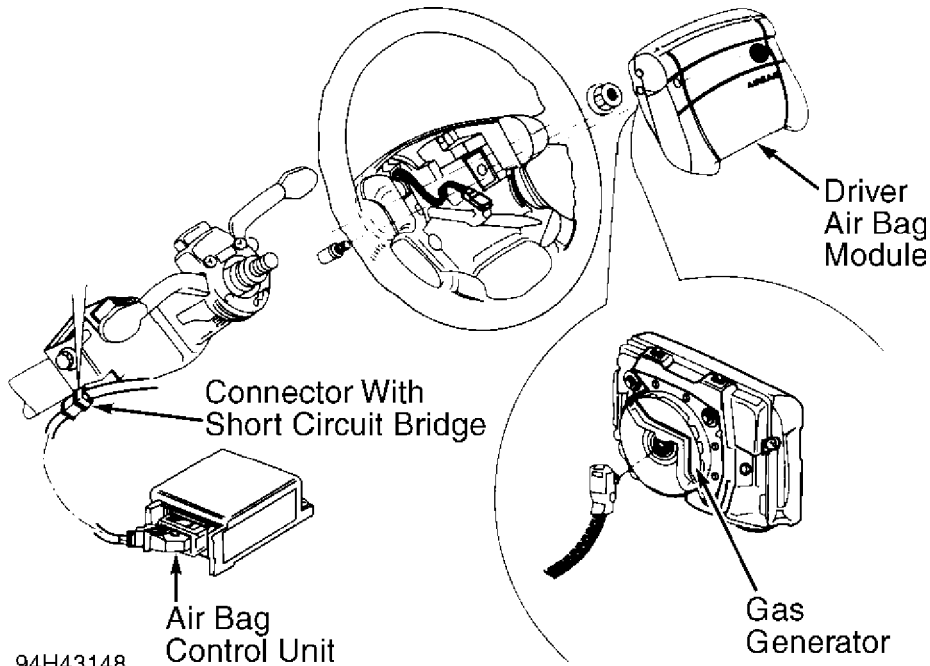

Fig. 1: Exploded View Of SRS Components
2) Air bag module is located in steering wheel. See Fig. 1. Remove air bag module Torx head screws from rear of steering wheel. Lift off air bag module from steering wheel, and tilt air bag module downward. Disconnect air bag module connector.